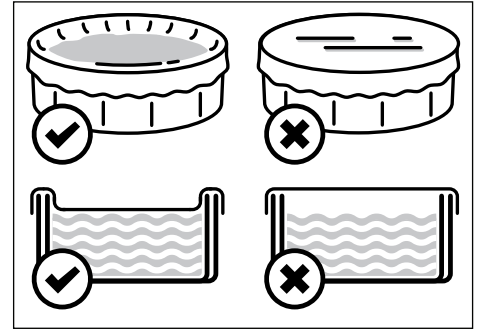
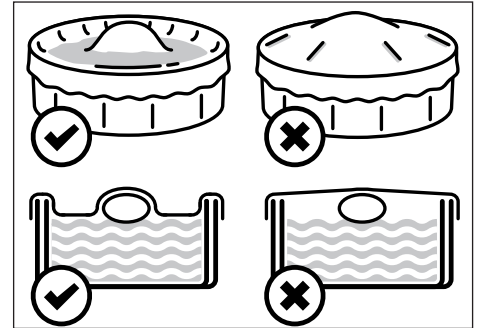

figure 1
figure 2
4. Place the cover over your pool so it rests directly on the water's surface and the excess material hangs evenly over the sides of the pool. (Figure 1) If you choose to use an ice equalizer pillow (sold separately) the cover should be draped over the pillow then rest on the water's surface. (Figure 2)